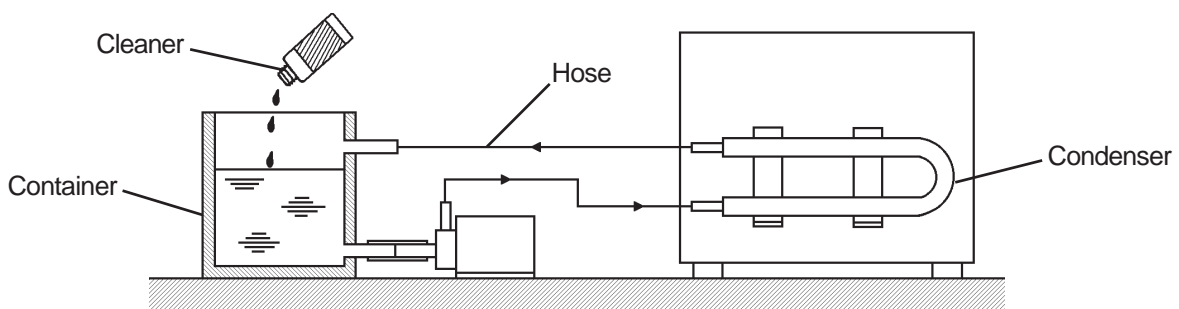

Fig. 18
- 6) Connect hoses as shown in Fig. 18 and secure them by hose bands.